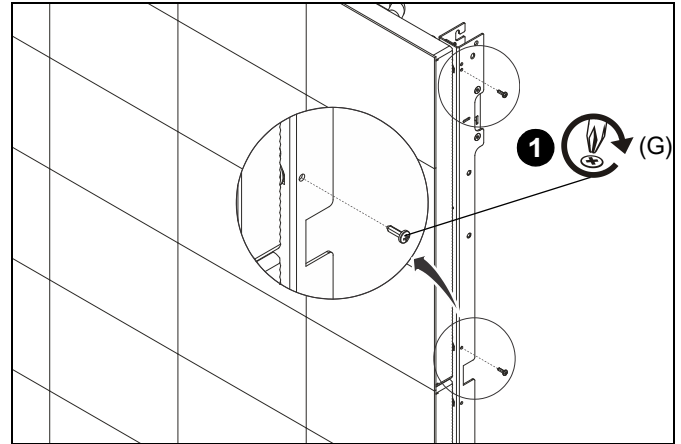

Figure 26
**NOTE:** To lock lateral shift position, #10-24 x 5/8" Phillips tapping screws (G) may be used to secure displays in position.
1. After all displays are mounted and leveled, install #10-24 x 5/8" Phillips tapping screws (G). (See Figure 26)